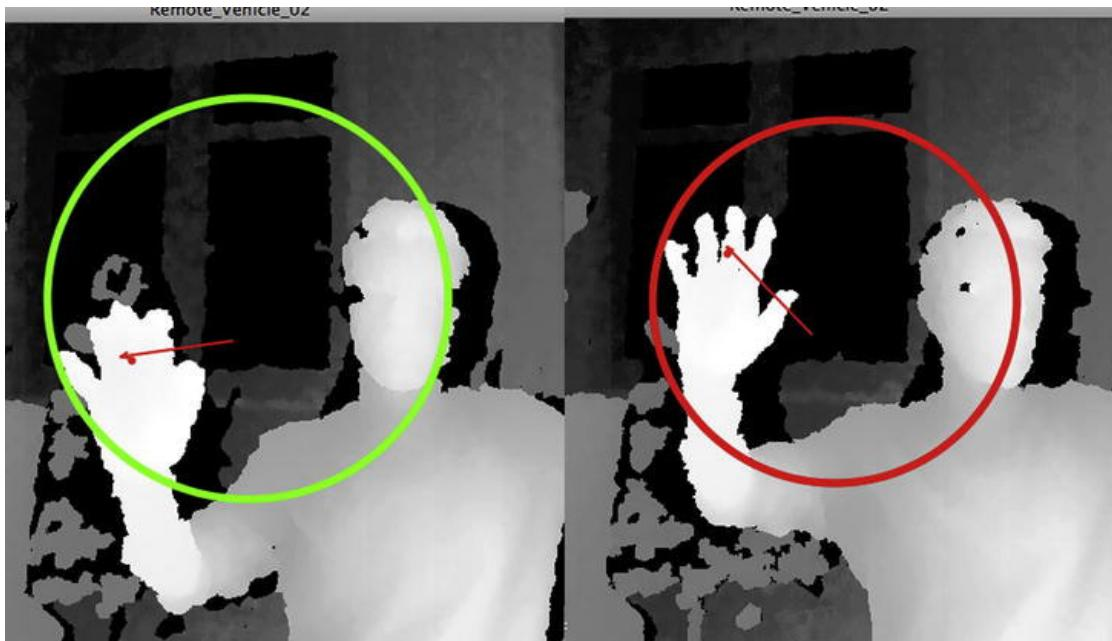

Figure 9-26. Safety mode on and off
- If you draw a circle with your hand, you activate a virtual switch, turning on and off the automatic response, as shown in Figure 9-26.